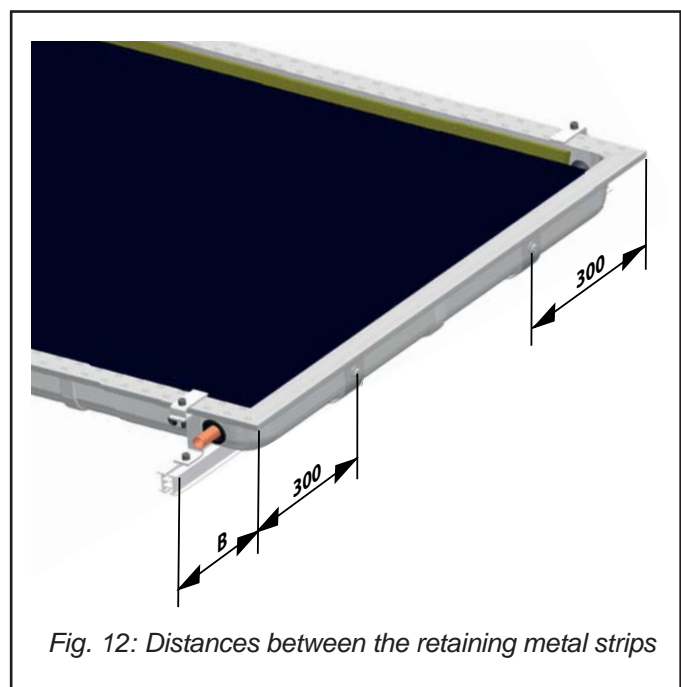

Fig. 12: Distances between the retaining metal strips
- The distance between the collector side edge and the end of the bottom rail is $B =$ about 50 mm (Fig. 12).